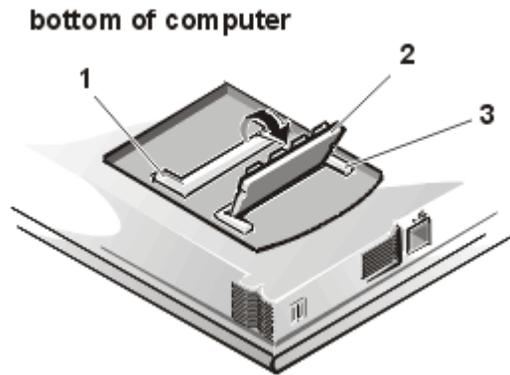

Figure 7. Memory Modules
9. Remove the memory modules (see Figure 7).